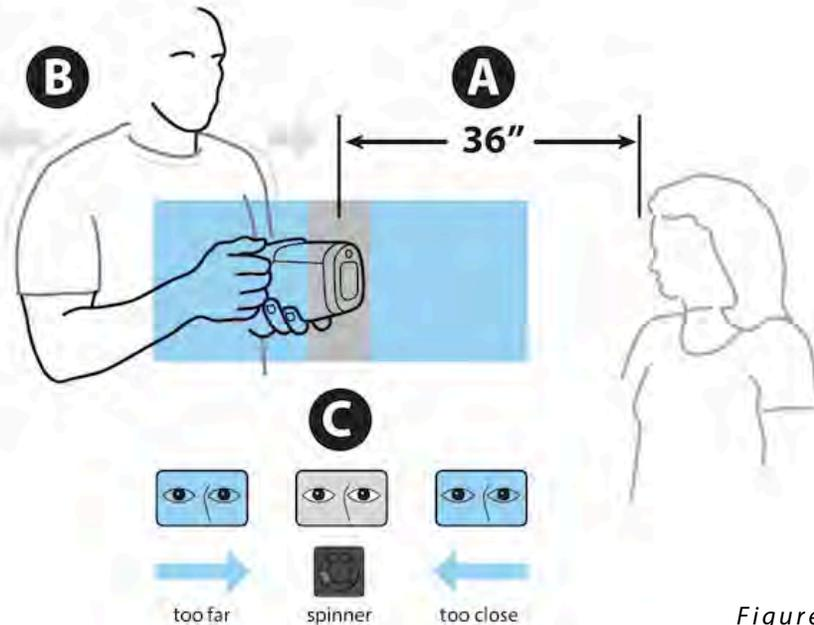

Figure 8
1. Position yourself approximately 1 meter from the subject, as shown in *Figure 8*.